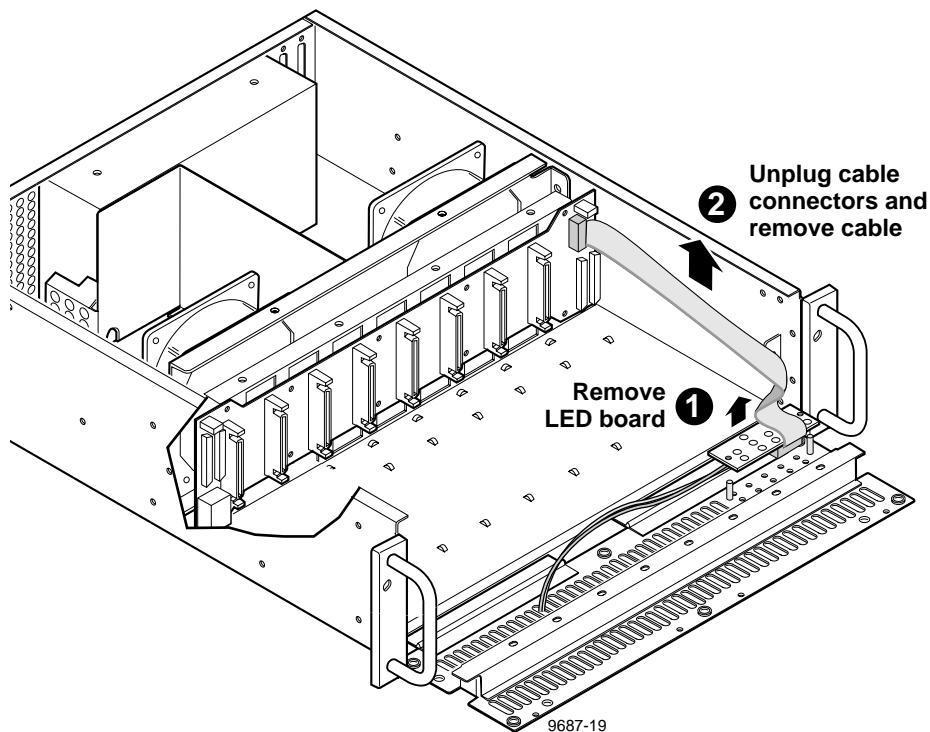

Figure 3-7. Disk Drive LEDs Cable Removal
This cable (item 10 in Table 3-1), for the disk drive activity LEDs, connects from the LED board on the front panel to the SCSI Distribution board. It is not necessary to remove the PDX208 from the rack to perform this procedure. Figure 3-7 shows the LED board and cables.
5. Disconnect the Disk Drive LEDs cable from the LED board (Figure 3-7).
6. Remove as many caddies as necessary to reach the Disk Drive LEDs cable where it connects to the SCSI Distribution board (Figure 3-7). (See **Removing a Disk Drive**.)
1. Connect the new Disk Drive LEDs cable from the LED board to the SCSI Distribution board (Figure 3-7).